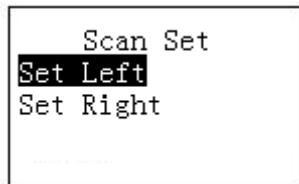

Figure 3-4
- a) Select Set and then click **【ENTER】**, you can see an interface shown as in Figure 3-4.